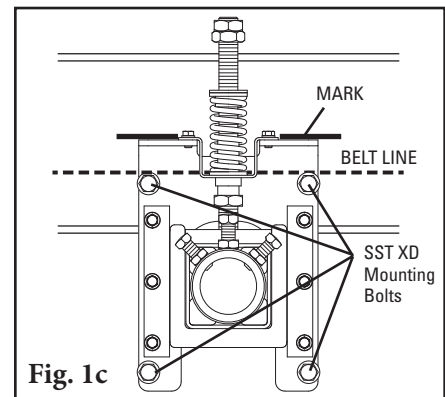

Fig. 1c
- c. Make a mark on the structure or mounting bracket above one SST XD/SAT XD tensioner. Remove the SST XD/SAT XD mounting bolts, nuts, and washers from one tensioner (Fig. 1c) then remove the tensioner and pole.